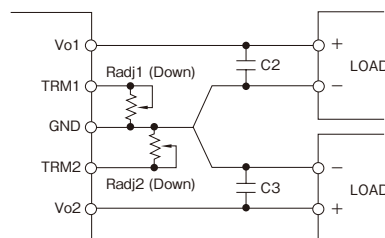

Fig.3-3: Connection for output voltage trim down
- b) GND terminal: to adjust to lower output voltage; Fig. 3-3.